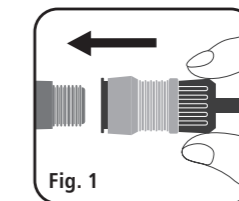
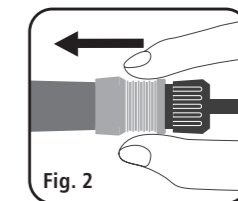

Fig. 1
Fig. 2
Inflation: the quick release valve (8) can be directly connected to the Schrader Valve by holding the quick release connector at its base (fig1.) and pushing the connector firmly onto the valve. While still pushing forward slide your thumb and forefinger down into the grey collar and continue pushing until the collar stops moving forward (fig2.). A successful connection will result with no air escaping (hissing) from the valve. If a hiss occurs remove the connector by holding the grey collar and pulling it back and try again.
Inflation: Screw the Presta Valve adapter onto the bicycle tyre valve stem. Then holding the quick release connector at its base (fig. 1), push the connector firmly onto the adapter. While still pushing forward, slide your thumb and forefinger down into the grey collar and continue pushing until the collar stops moving forward (fig. 2). A successful connection will result when no air escapes (hiss) from the adapter. If a hiss occurs, remove the connector by holding the grey collar, and pulling it back, try again.
To inflate footballs and other balls, use the needle adapter. To connect the needle adapter to the quick release valve connector, push and hold the needle adapter into the hole of the connector with one hand while holding the quick release connector at its base (fig. 1), push the connector forward. While still pushing forward, slide your thumb and forefinger down into the grey collar and continue pushing until the collar stops moving forward (fig.2). The needle valve is now locked into the connector. To remove the needle valve, hold it with one hand and pull the grey collar back with the other hand.
Small inflatable toys use the small toy inflator adapter. To connect the adapter to the quick release valve connector, push and hold the adapter into the hole of the connector with one hand while holding the quick release connector at its base (fig. 1). Push the connector forward. While still pushing forward, slide your thumb and forefinger down into the grey collar and continue pushing until the collar stops moving forward (fig. 2). The adapter is now locked into the connector. To remove it, hold it with one hand and pull the grey collar back with the other hand.
3. To choose the pressure format, press the inflation selection button (5) for 2–3 seconds to switch between psi / bar / kPa. Each press and hold of the button cycles through the pressure formats. Once the format stops flashing, the new selection is set.
4. Uncoil the high pressure hose (8) and connect the quick release valve connector onto the tyre valve. To do this, hold the quick release connector at its base (fig. 1), push the connector firmly onto the valve. While still pushing forward, slide your thumb and forefinger down into the grey collar and continue pushing until the collar stops moving forward (fig. 2). A successful connection will result with no air escaping (hissing) from the valve. If a hiss occurs, remove the connector by holding the grey collar and pulling it back, then try again.